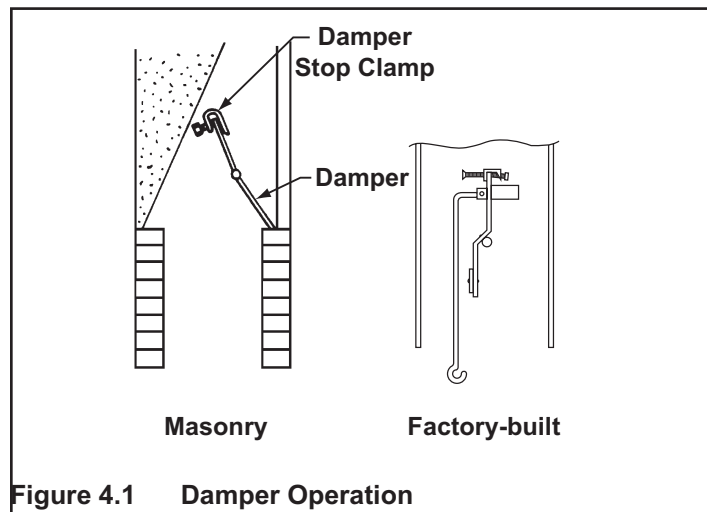

Figure 4.1 Damper Operation
- Open the damper to the fully open position and secure it open with the stop as shown in Figure 4.1.